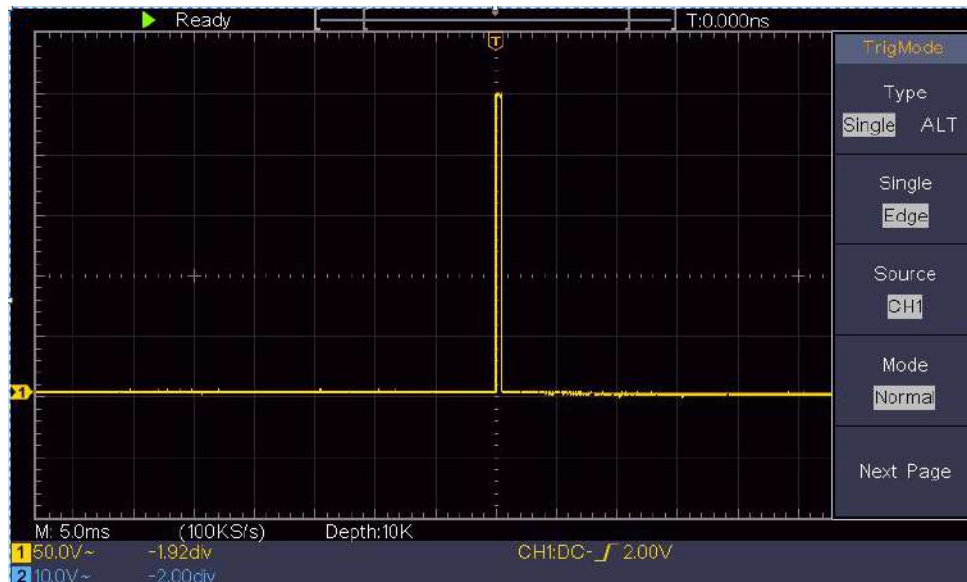

Figure 6- 3 Capturing a Single Signal
- (2) Adjust the **Vertical Scale** and **Horizontal Scale** knobs to set up a proper vertical and horizontal ranges for the signal to be observed.
- (3) Push the **Acquire** button to display the right menu.
- (4) In the right menu, select **Acqu Mode** as **Peak Detect**.
- (5) Push the **Trigger Menu** button to display the right menu.
- (6) In the right menu, select **Type** as **Single**.
- (7) In the right menu, select **Single** as **Edge**.
- (8) In the right menu, select **Source** as **CH1**.
- (9) In the right menu, press **Next Page**, select **Coupling** as **DC**.
- (10) In the right menu, select **Slope** as  (rising).
- (11) Turn the **Trigger Level** knob and adjust the trigger level to the roughly 50% of the signal to be measured.
- (12) Check the Trigger State Indicator on the top of the screen, if it is not Ready, push down the **Run/Stop** button and start acquiring, wait for trigger to happen. If a signal reaches to the set trigger level, one sampling will be made and then displayed in the screen. By using this approach, a random pulse can be captured easily. For instance, if we want to find a burst burr of high amplitude, set the trigger level to a slightly higher value of the average signal level, push the **Run/Stop** button and wait a trigger. Once there is a burr occurring, the instrument will trigger automatically and record the waveform during the period around the trigger time. By turning the **Horizontal Position** knob in the horizontal control area in the panel, you can change the horizontal triggering position to obtain the negative delay, making an easy observation of the waveform before the burr occurs (see *Figure 6- 3*).